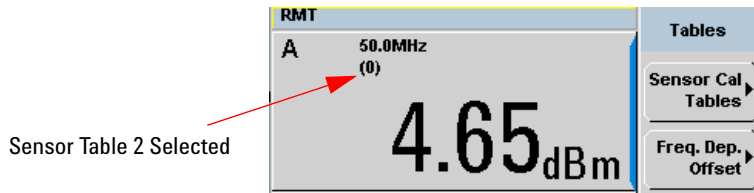

Figure 8-139 Frequency dependent offset indicator
- 4 Press **Done** again to display the measurement screen. Figure 8-139 shows which offset table is selected.